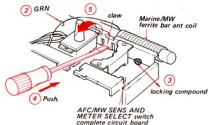

Fig. 2-12
- 2 Unsolder GRN antenna lead wire shown in Fig. 2-12.
- 4 Remove AFC/MW SENS AND METER SELECT switch complete circuit board in the direction shown by the arrow 5 by pushing main chassis claw with a slot screwdriver as shown in Fig. 2-12.